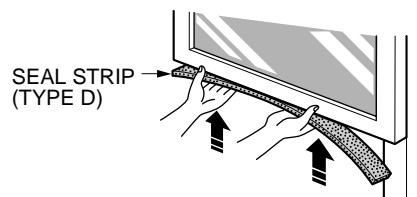

Figure 6
2. Cut the adhesive-backed seal strip (TYPE D) to the window width. Remove the backing from the seal strip and attach the seal strip to the underside of the bottom window. (Figure. 6)
Open the window and mark center line on the center of the inner sill, as shown in Figure. 6.